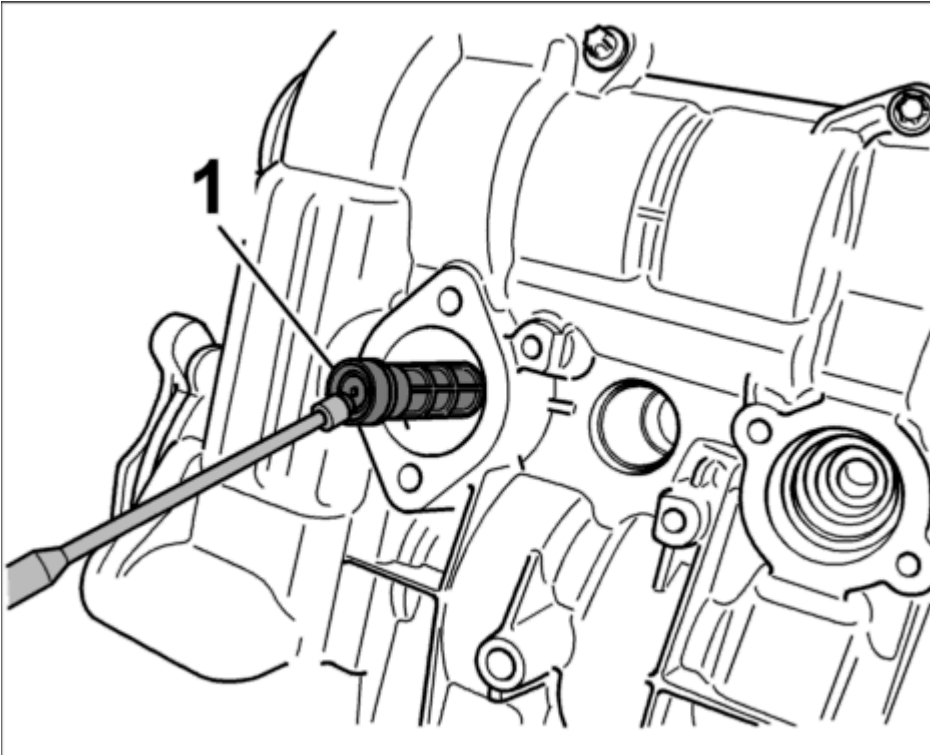

Fig. 199: Oil strainer in hydraulic valve for camshaft adjustment
4. If the solenoid hydraulic valve for camshaft adjustment is removed, the oil strainer -1- must be checked for damage and contamination, and replaced if necessary. See **Fig. 199**.